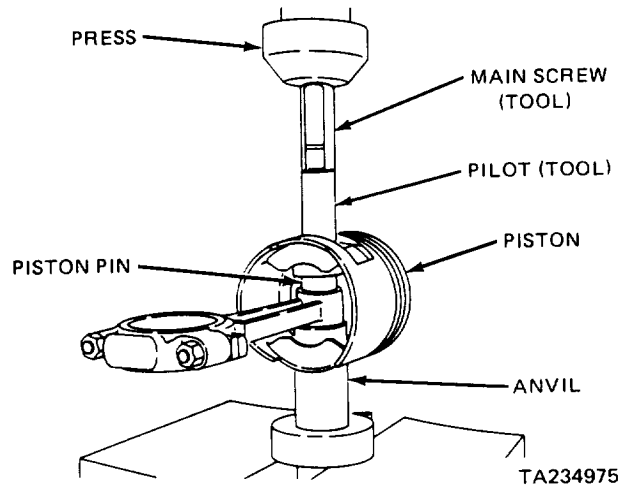

Figure 11-10. Removing Piston Pin with Tool C-4158-L.
- (4) Install the pilot on the main screw.
- (5) Install the main screw through the piston pin.
- (6) Install the anvil over the threaded end of the main screw, with the small end of the anvil against the piston boss. Be sure the spring is removed from the anvil.
- (7) Install the nut loosely on the main screw and place the assembly on a press (figure 11-10).